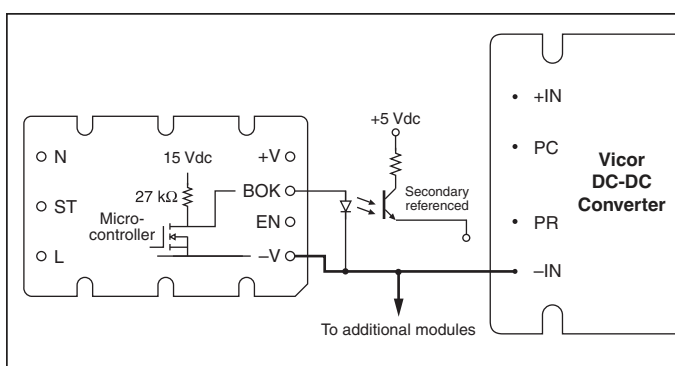

Figure 12 — Bus OK (B OK) isolated power status indicator
**Bus-OK (B OK) Pin.** (See Fig. 12). The Bus-OK pin is intended to provide early-warning power fail information and is also referenced to the negative output pin.
The power fail warning time ( $\Delta t$ ) is defined as the interval between (B OK) and converter shutdown (EN) as illustrated in Fig. 12. The Bus-OK and Enable thresholds are 205 V and 190 V, respectively. A simplified relationship between power fail warning time, operating power, and bus capacitance is obtained by inserting these constants: